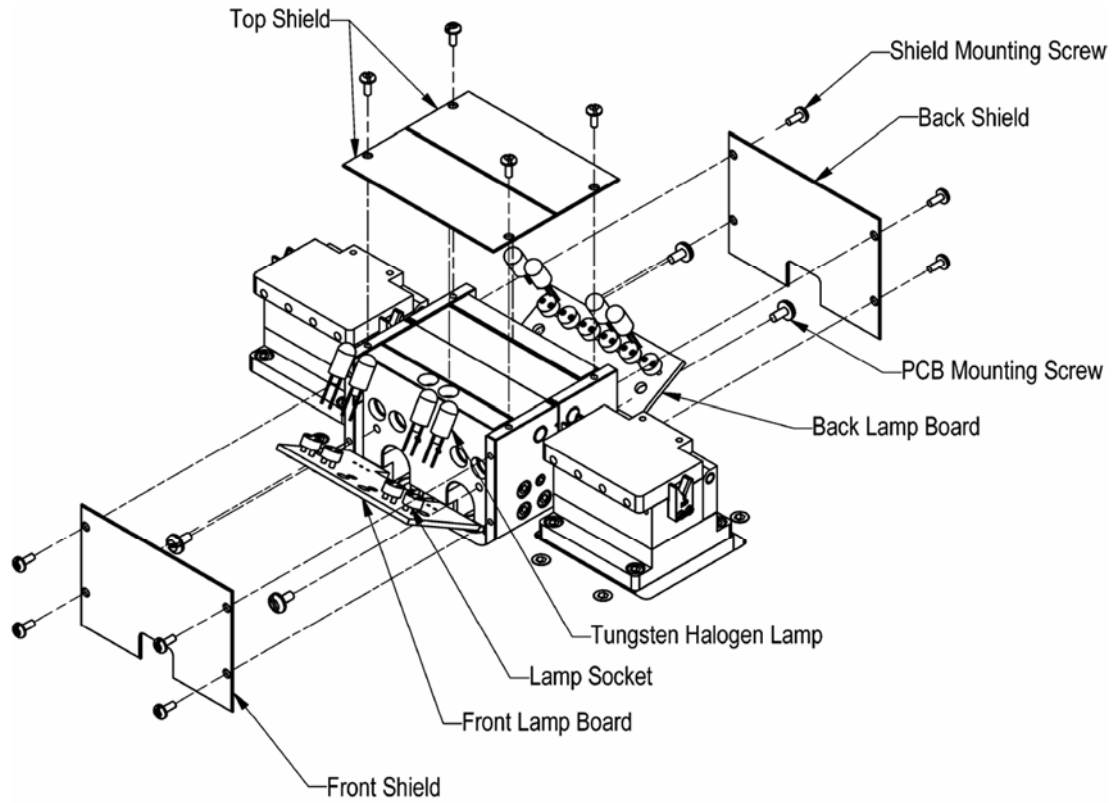

Figure 13 **Horizontal Lamp Replacement**
3. Remove the front, back and two (2) top mold shields by removing the twelve (12) screws securing them in place. (0.050" Allen wrench required.) See Figure 13.